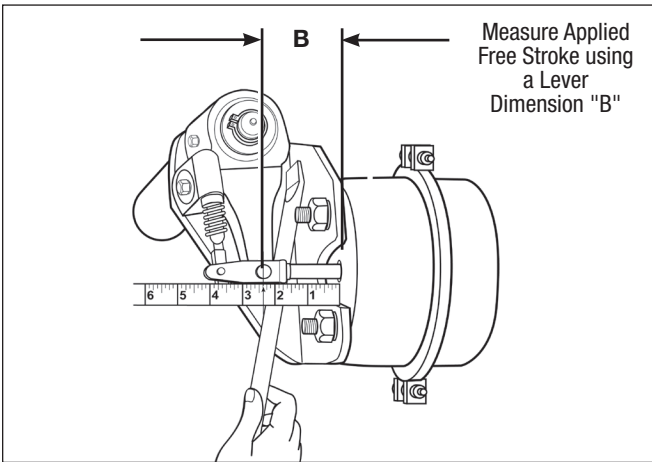

Figure 9 – Measure Applied Free Stroke Using A Lever
3. Measure the applied free stroke using a lever, and again measure from the face of the air chamber to the clevis pin centerline. See Figure 9. Record the distance as dimension "B".